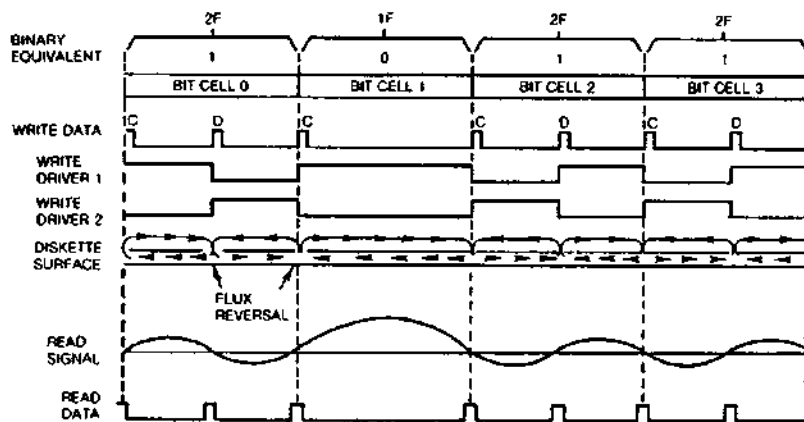

FIGURE 30. 1F AND 2F RECORDING FLUX AND PULSE RELATIONSHIP
**1.4.5** Figure 30 shows the 1F and 2F recording flux transitions with pulse relationship.